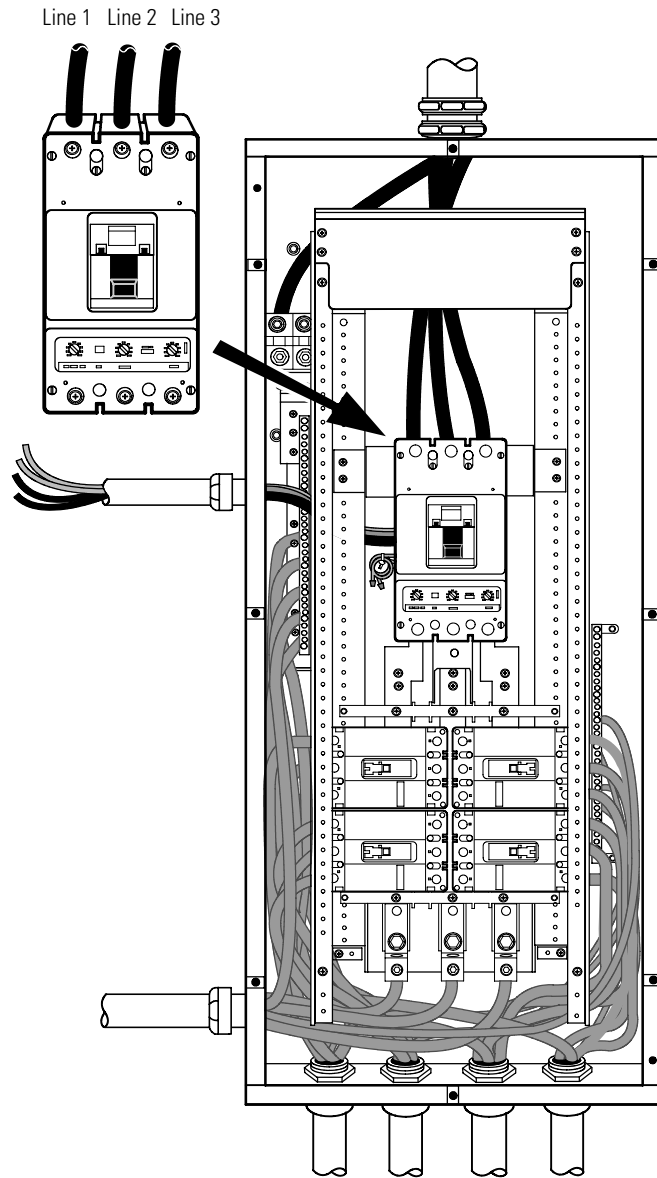

Figure 10. Bypass AC Input Wiring
25. Wire the AC input to the bypass breaker (see Figure 10).